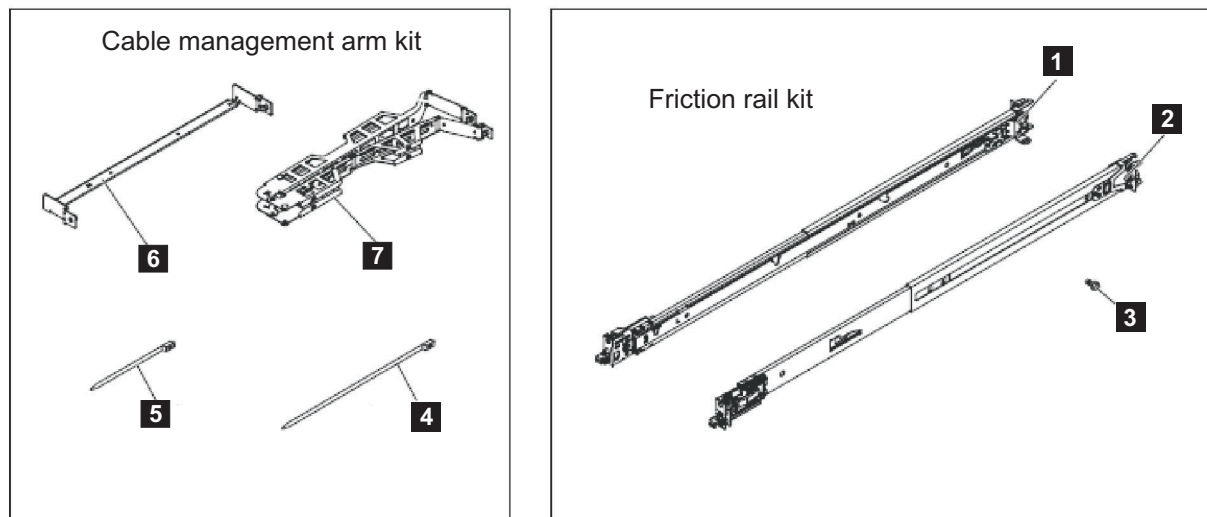

Figure 20. SAN Volume Controller 2145-CF8 cable-management arm, support rails, and associated parts
Figure 20 shows the items that you need to install the SAN Volume Controller 2145-CF8 node in a rack.
1. Verify that you have all the items that you need for installing the support rails and that you have identified the front of each rail, as shown in Figure 20 on page 22.